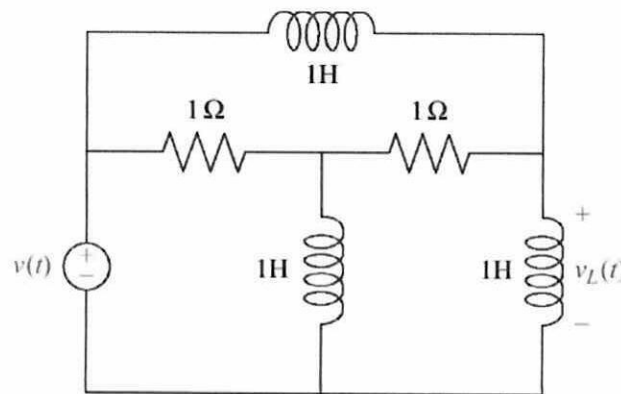

Figure Q2(b)
- (b) Find the transfer function, $G(s) = \frac{V_L(s)}{V(s)}$ for the circuit given in **Figure Q2(b)**. Solve the problem using two methods, mesh analysis and nodal analysis to prove both methods yield the same results.